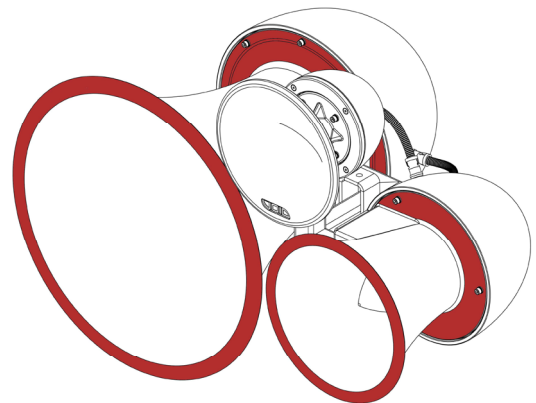

Figure 2.1: Safe handling positions diagram
- To remove from the transport case, each person should hold the Air Motion on each side, with one hand on the edge of the horn flare, and the other supporting the weight of the drivers to the rear, as shown in figure 2.1